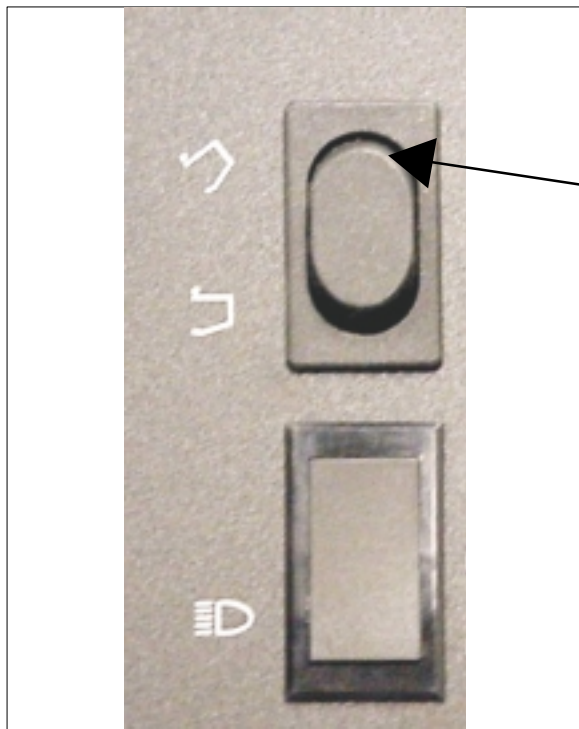

Figure 21
**HOPPER LIFT SWITCH (See Figure 21)**